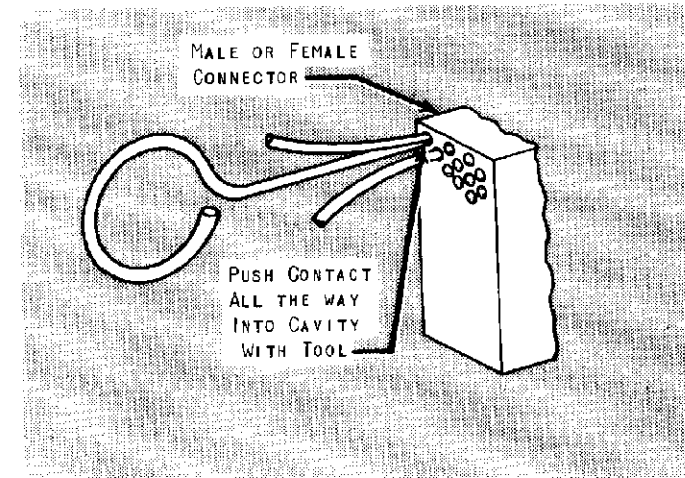

Fig. 4
- (c) Hold wire in groove of Tool and push Contact all the way into Cavity in Connector. See Figure 4.